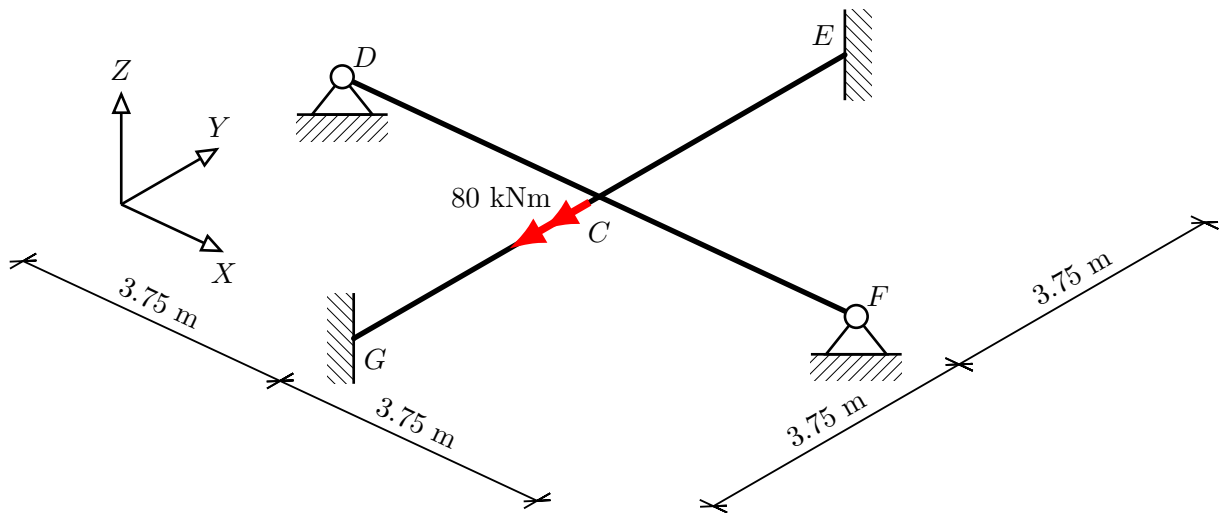

Figure 1: Grid Problem.
The symmetric grillage shown in Figure 1 has fixed ends at  $E$  and  $G$  and pinned ends at  $D$  and  $F$ . Material and geometric properties are the same for all members:
Draw the resulting bending and torsion moment diagrams for the applied load shown in Figure 1.
**Step 1:** Define coordinate system. This is already provided in Figure 1.